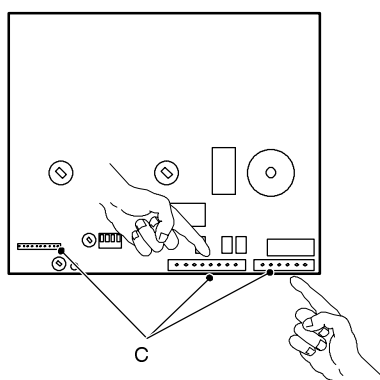

fig. 44
- 4 delicately flex the hooks indicated and disconnect the connectors C (fig. 44);